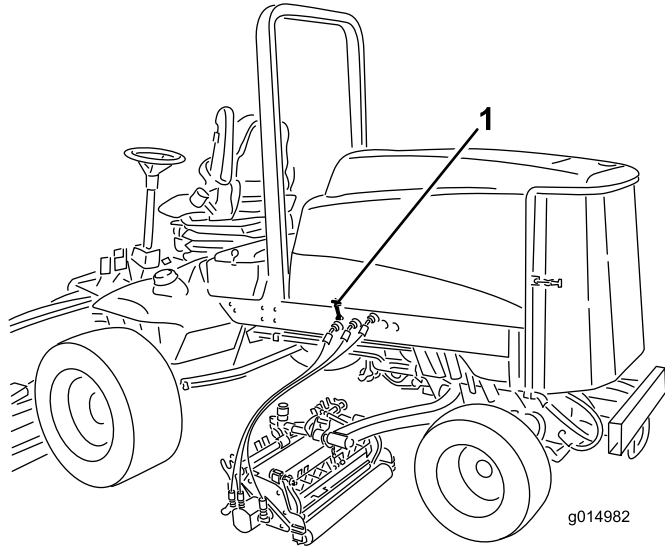

Figure 48
1. Release hood latches (Figure 48) and pivot open the hood.